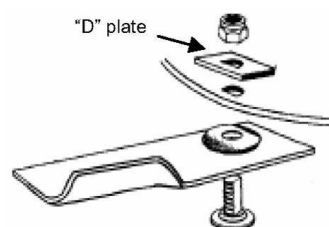

Figure 16. Blade Attachments
- ★ Fit new blades and fasten in the correct order. Refer to figure 16.